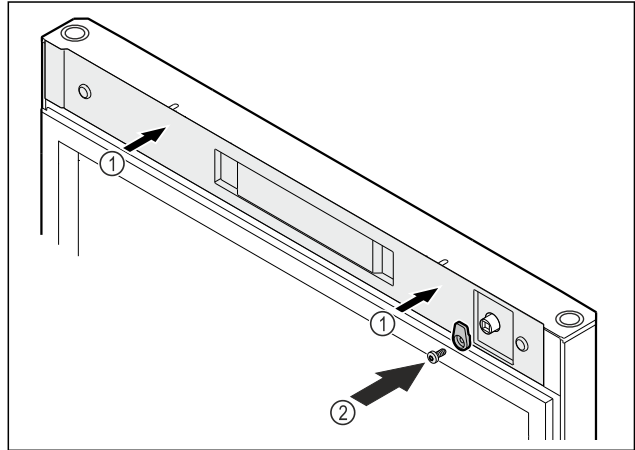

Fig. 55
- ▶ Set the cover back in place Fig. 55 (1).
- ▶ Screw on the door latch Fig. 55 (2).